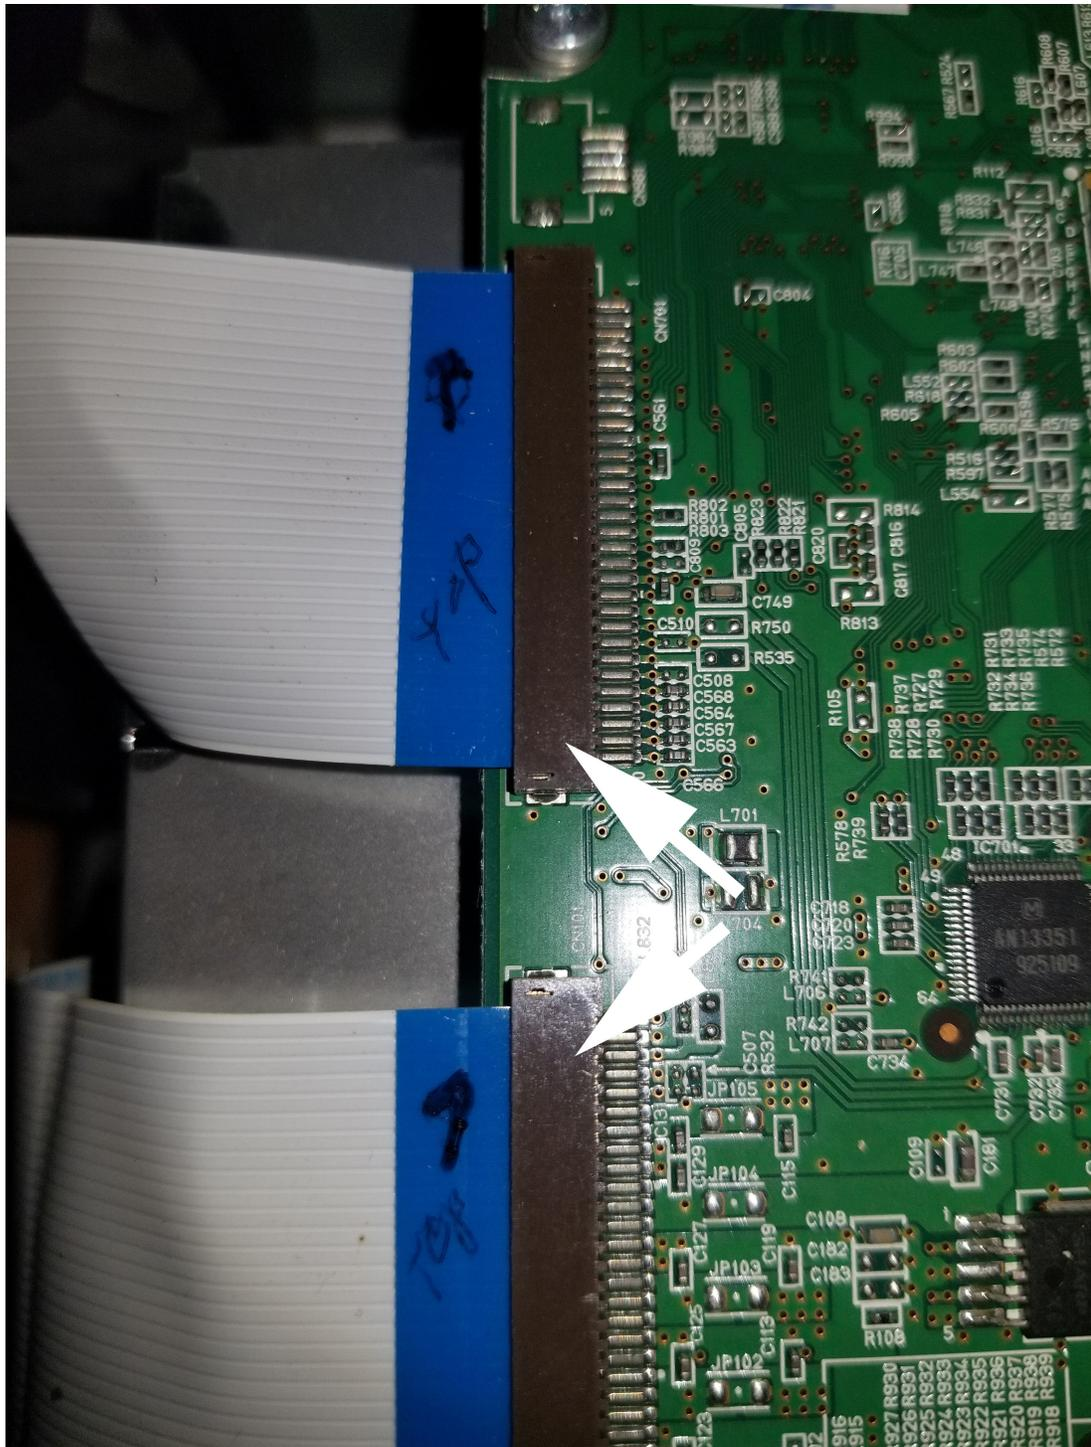

Fig. 7 – Slide ribbon cables from DVD player
Step 5 – Unplug ribbon cables from sockets on circuit board of DVD player. Pull gently and they will slide out of their sockets. Don't pull on sockets. They do not flip up. See Fig. 7.